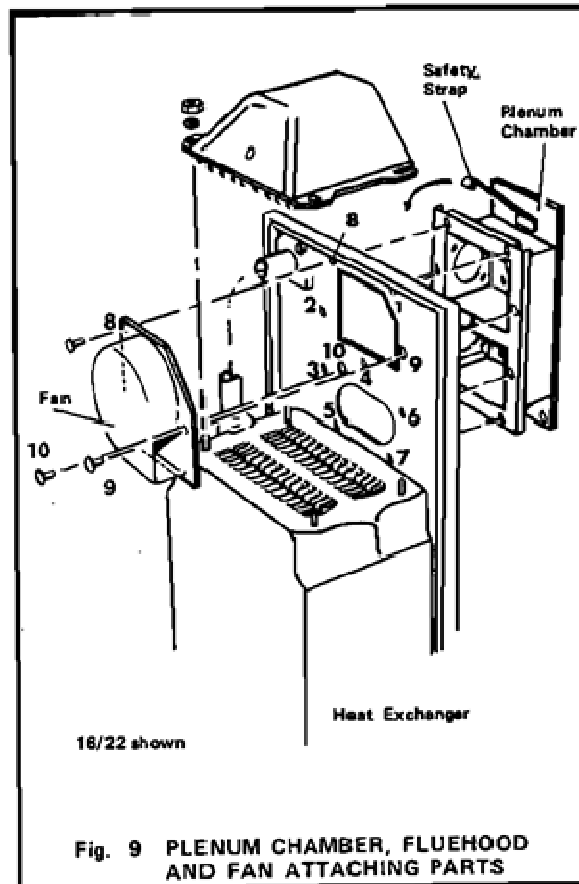

Fig. 9 PLENUM CHAMBER, FLUEHOOD AND FAN ATTACHING PARTS
- F. Unscrew and remove the nuts securing the flue-hood, then lift off the fluehood, see Fig. 9. Discard the paper gasket.
- G. Disconnect the three electrical leads from the fan, then unscrew and remove the screws securing the fan. Lift off the fan, see Fig. 9.
- H. Unscrew and remove the screws securing the plenum chamber, see Fig. 9.
The boiler is designed so that all pipes can be hidden within its own width except where they leave the boiler at top and/or bottom. Because the water connections are behind the boiler backplate, short lengths of pipe will have to be connected to some of the tappings to be used before fixing the boiler to the plenum box, and terminated in unions in a position suitable for connecting to the system pipework; it is recommended that copper capillary connections are used. Although it is possible to install the boiler and its pipework with only access from the front, it is very much easier with access from at least one side. This access is not necessary for maintenance which can be carried out from the front only. Pipe runs must be kept clear of the areas where the plenum chamber is to be fitted and where the air inlet and flue ducts will be located if a side outlet is being used. Connections which can be used and suggested methods of running pipework behind the boiler are shown in Fig.9. Any pipe tails running downwards from behind the boiler should not protrude below the bottom of the metal feet. Refer to Figs. 18 to 25 for diagrams of typical systems to which the boiler can be connected.
5. FITTING THE BOILER ON THE WALL – See Fig.9
The strap must first be positioned by hooking it in the slot in the plenum chamber (See Fig.9). It can then be hinged upwards against the wall until the boiler has been fitted when it can be hinged downwards, so holding the backplate against the plenum chamber.
- A. Stand the boiler on the floor in a vertical position using the two metal feet and polystyrene control cover protector, then using the cast iron flow pipe and the underside of the heat exchanger, lift the boiler into position on the wall, locating its mounting bracket on the bearing plate in the mounting channel. Support the boiler in this position using the safety strap if necessary, then secure the boiler backplate to the plenum chamber with the screws numbered 1 to 7 on Fig. 9. **NOTE:** Screw No. 4 not used on 6/10 & 10/16 boilers. Three screw holes in the boiler backplate are marked with a ring and these are for use when fitting the fan and must not be used in this operation.
- B. Fit the fan in position and secure it to the boiler backplate with the three screws, numbered 8 to 10 on Fig. 9. Connect the two mains electrical leads to their connections on the boiler backplate and the earth lead to the earth screw also on the backplate.